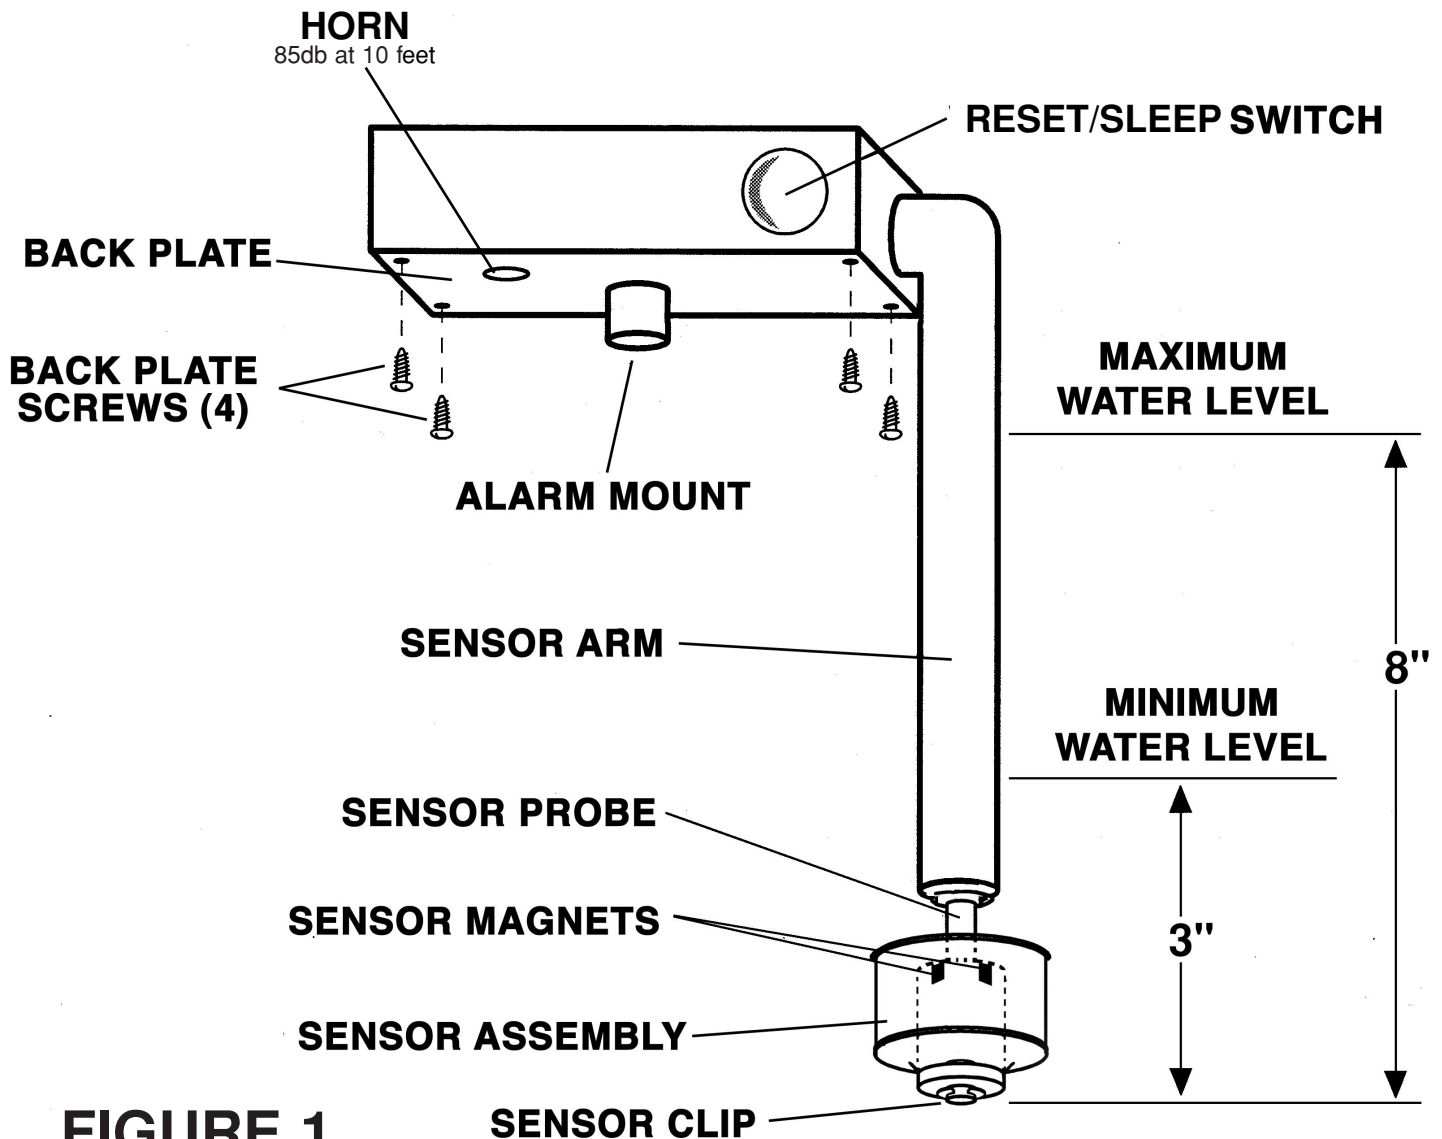

FIGURE 1
RESET/SLEEP SWITCH. (See Figure 1)
- Remove the four screws from the back of the alarm, refer to Figure 1.
POOLGUARD automatically compensates for variations in pool levels within the unit's operating range. The unit utilizes a sensor which projects into the water and is designed to operate in most pools with an in-wall skimmer. The sensor cannot be less than 3 inches, (See Figure 1) and not more than 8 inches into the water.